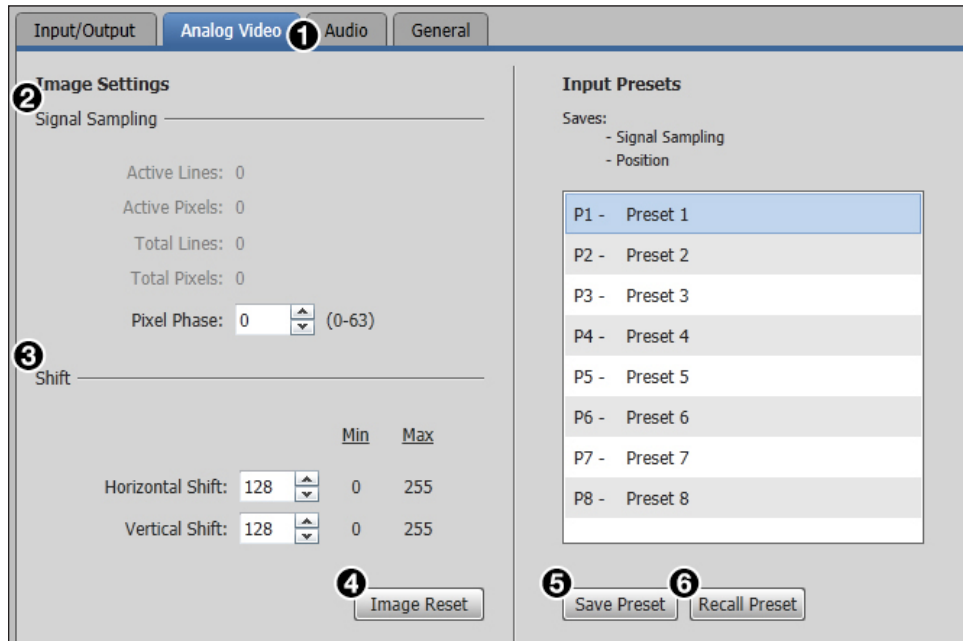

Figure 35. Analog Video Tab
Click the **Analog Video** tab (see figure 35, ❶) to open the Analog Video screen. It contains signal sampling, image shifting, and saving and recalling input preset options.